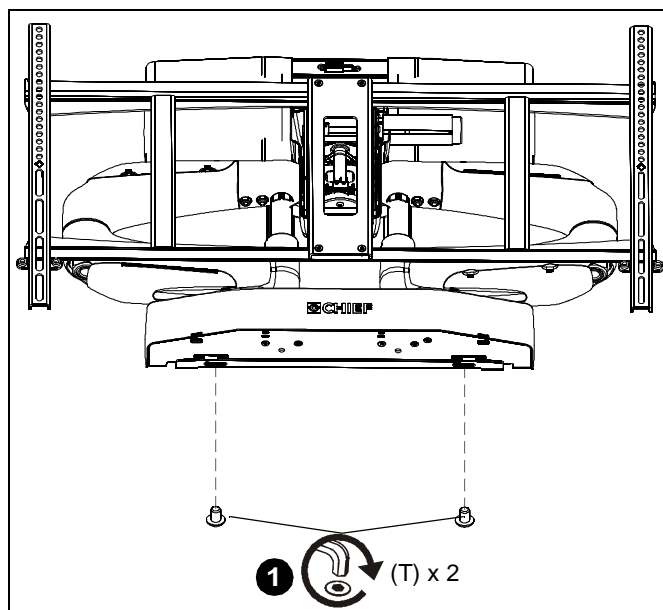

Figure 36
1. Make final attachment of PXR to wall mounting bracket using two 8-32 x 3/8" buttonhead cap screws (T). (See Figure 36)